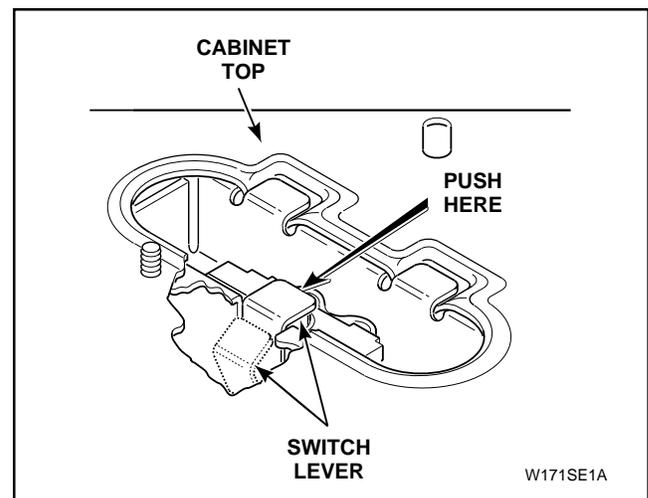

Figure 32
- Move switch lever off switch plunger, *Figure 32*, by moving lever back under cabinet top.